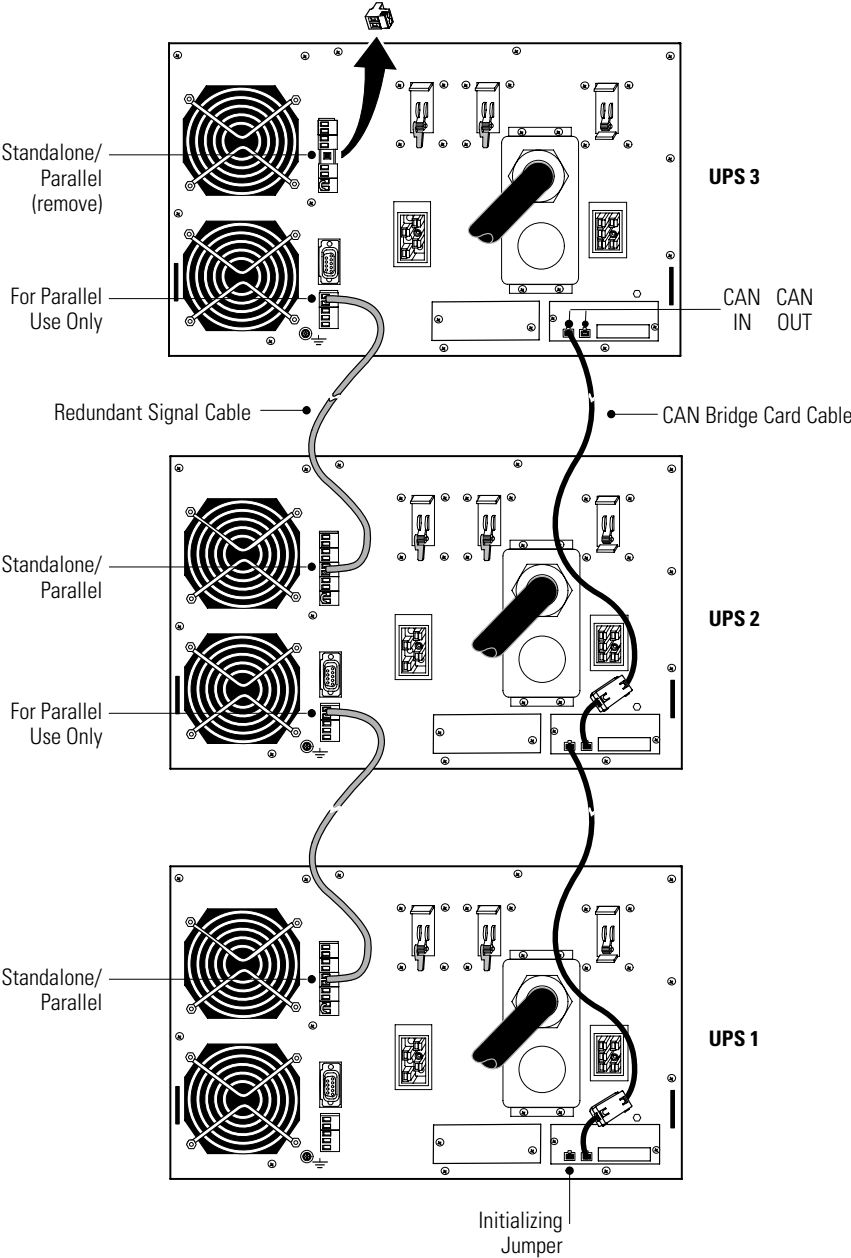

Figure 43. Typical CAN Bridge Card and Redundant Signal Wiring
9. Verify that the supplied initializing jumper is installed in the CAN IN port on the first UPS (UPS 1 in Figure 43).
10. Using the supplied connectors, install a CAN Bridge Card cable between each UPS as shown in Figure 43, connecting the CAN OUT port on one UPS to the CAN IN port on the next UPS.
NOTE *You can configure the parallel system with UPS 1 at the bottom of the rack (as shown in Figure 43) or at the top of the rack.*
12. Install a redundant signal cable between the For Parallel Use Only and Standalone/Parallel terminals on each UPS as shown in Figure 43. Remove the existing terminal block connectors before installing the cable.
13. Remove the Standalone/Parallel terminal block connector from the last UPS (UPS 3 in Figure 43).